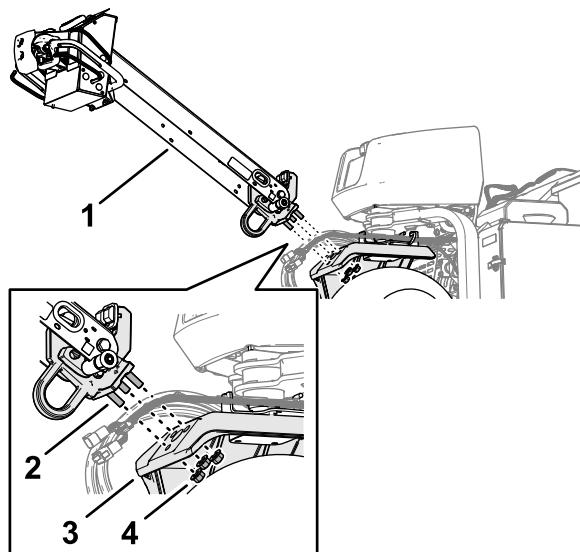

Figure 5
1. Insert the studs at the end of the handlebar into the holes in the steering arm (Figure 5).